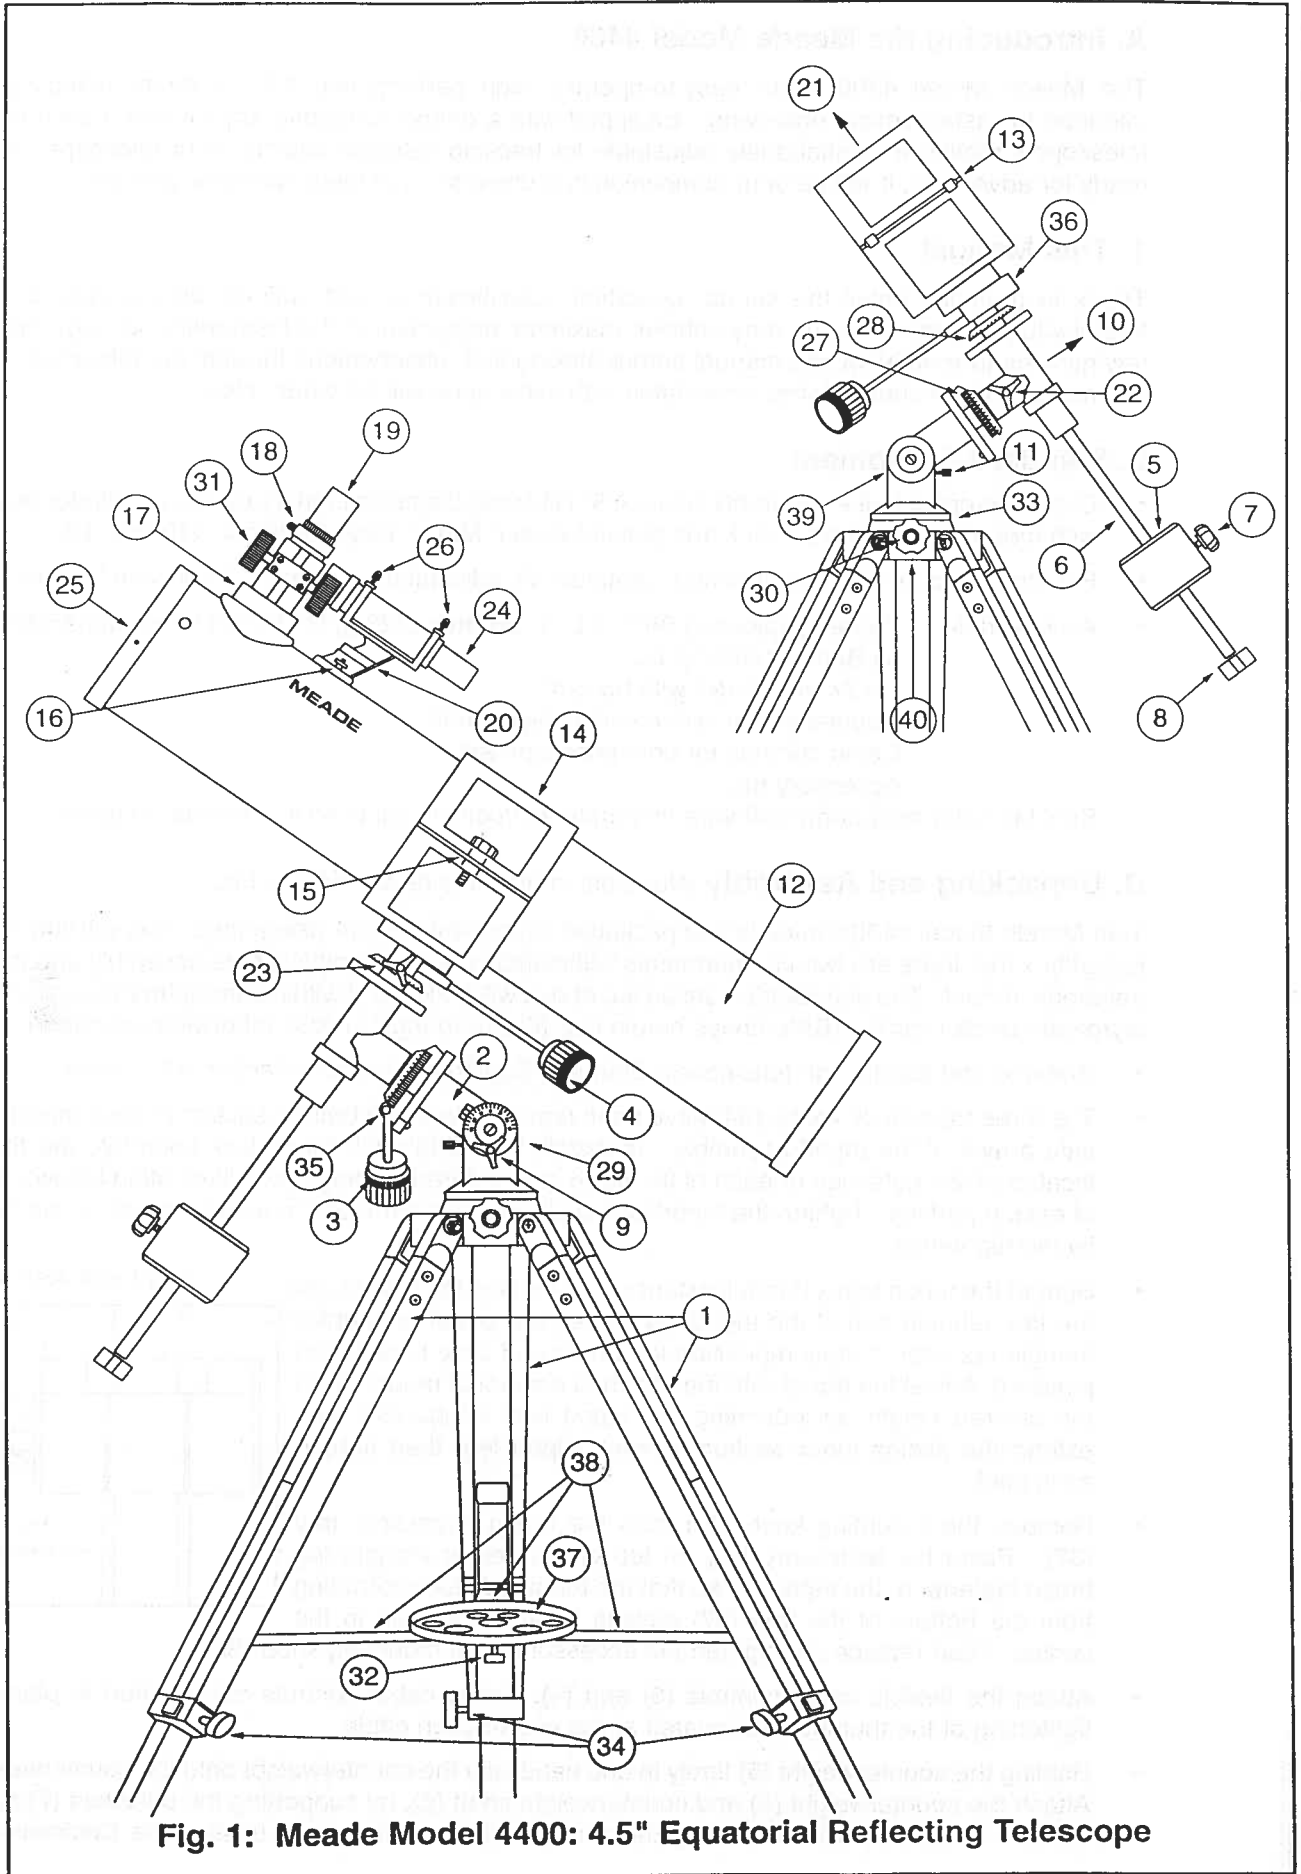

Fig. 1: Meade Model 4400: 4.5" Equatorial Reflecting Telescope
### Key to Fig. 1
## B. Unpacking and Assembly (Numbers in brackets below refer to Fig. 1)
Your Meade Model 4400 comes to you packaged almost entirely pre-assembled. You will find upon opening the giftbox that there are two compartments within that contain the optical tube assembly and the tripod with equatorial mount. The accessories described above will be located within compartments custom-cut into the styrofoam block inserts. (References herein e.g. (6) are to Fig.1 unless otherwise specified.)
- The three tripod lock knobs (34) have been removed from the bottom section of each tripod leg to insure safe arrival of the tripod assembly. To install, thread in each tripod lock knob into the threaded hole located at the right side of each of the three gray colored castings (see illustration below) at the bottom of each tripod leg. Tighten the tripod lock knob only to a "firm feel" to avoid damage to the tripod caused by overtightening.
- Spread the tripod legs (1) to full extension so that the leg braces (38) are taut (should one of the tripod leg braces slip out of the center triangle fastener, merely reposition the brace and slide it back into position). Adjust the tripod with the attached equatorial mount (2) to the desired height by loosening the tripod lock knobs (34) and extend the sliding inner section of each tripod leg; then tighten each knob.
- Remove the mounting knob (32) from the round accessory tray (37). Place the accessory tray on top of the center triangle leg brace fastener of the tripod (1) so that the threaded stud protruding from the bottom of the tray (37) passes through the hole in the center. Then replace and tighten the accessory shelf mounting knob (32).
- Attach the flexible cable controls (3) and (4). These cable controls are secured in place with a firm tightening of the thumbscrew located at the end of each cable.
- Holding the counterweight (5) firmly in one hand, slip the counterweight onto the counterweight shaft (6). Attach the counterweight (5) and counterweight shaft (6), by supporting the unlocked (7) counterweight firmly in one hand, while threading the counterweight shaft into the base of the Declination axis of the
telescope's equatorial mount with the other (see Fig. 1). Once firmly attached, slide the counterweight to the midpoint on the counterweight shaft and secure it in place with the lock knob (7) of the counterweight. Note: If the counterweight ever slips, the secured threaded safety washer/knob (8) will not let the weight slide entirely off the counterweight shaft. **Be certain that this safety washer/knob is always in place.**
- Release the latitude lock (9) of the equatorial mount, and tilt the polar axis (10) of the telescope to roughly a 45° angle. Adjust the latitude adjustment thumbscrew (11) if necessary to accommodate this position. With the polar axis thus tilted, firmly re-tighten the latitude lock (9).
- Loosen the Cradle Lock Knob (15) of the cradle clamp ring (14) and open the cradle clamp.
- Remove the viewfinder bracket mounting nuts from the viewfinder bracket mounting bolts (16) that protrude from the optical tube (12), near the focuser. Place the viewfinder bracket's mounting holes (located at the base of the bracket) over the mounting bolts, so that the bracket is oriented as shown in Fig. 1. Then replace the viewfinder bracket mounting nuts, and tighten to a firm feel. Position the viewfinder's objective lens so it is pointing at the open end (front) of the optical tube.
- While firmly holding the optical tube (12), position it onto the lower half of the open cradle clamp (14) (which is positioned directly over the mount), with the midpoint of the optical tube's length lying roughly in the center of the cradle clamp. Then position the upper portion of the cradle clamp over the tube (12). Next, tighten the cradle lock knob (15) to a firm feel; do not overtighten. Please note that you may want to change the rotational position of the optical tube to gain a more comfortable observing position of the focuser (17). This adjustment may be performed several times in one observing session, as desired, by loosening the pressure on the cradle lock knob and rotating the tube.
- Insert the H25mm eyepiece (19) into the focuser, and tighten the focuser thumbscrew (18) to secure the eyepiece.